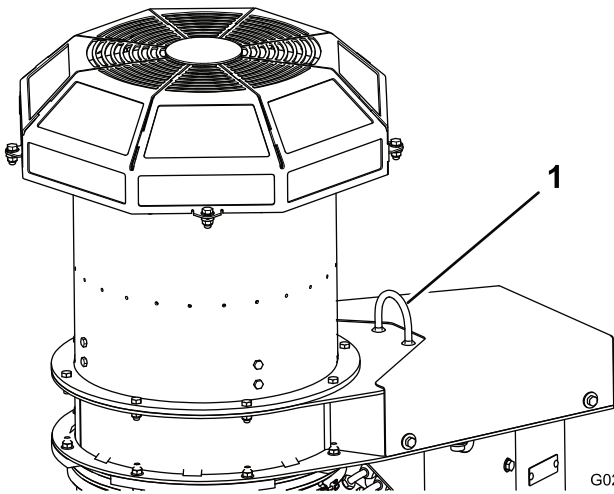

Figure 7
8. Remove the strap from the pallet and attach it to the lift loop on the blower (Figure 7).